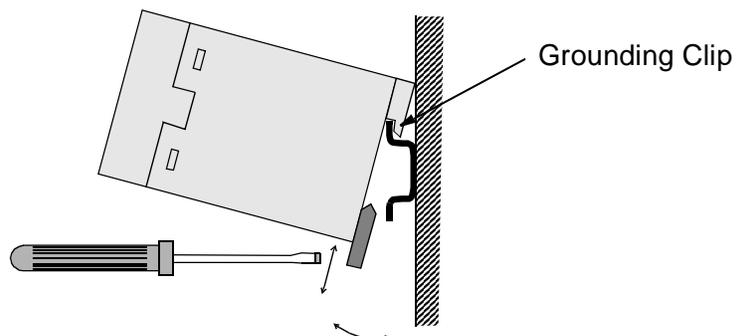

Figure 3-1 Mounting and removing the module.
- The module ground is connected to the mounting rail by means of a grounding clip (see Figure 3-1 below). The mounting rail onto which the option module is to be mounted must be grounded to a noiseless ground. If the rail is not mounted on a properly grounded base, a separate grounding conductor must be used. The conductor must be as short as possible and the cross-sectional area must be 6 mm2 at least. **Note:** No solid copper conductor may be used (stranded wire allowed only).
3. Push the module onto the rail. The module can be released by pulling the locking spring with a screwdriver (see Figure 3-1).
7. Push the module onto the rail. The module can be released by pulling the locking spring with a screwdriver (see Figure 3-1).